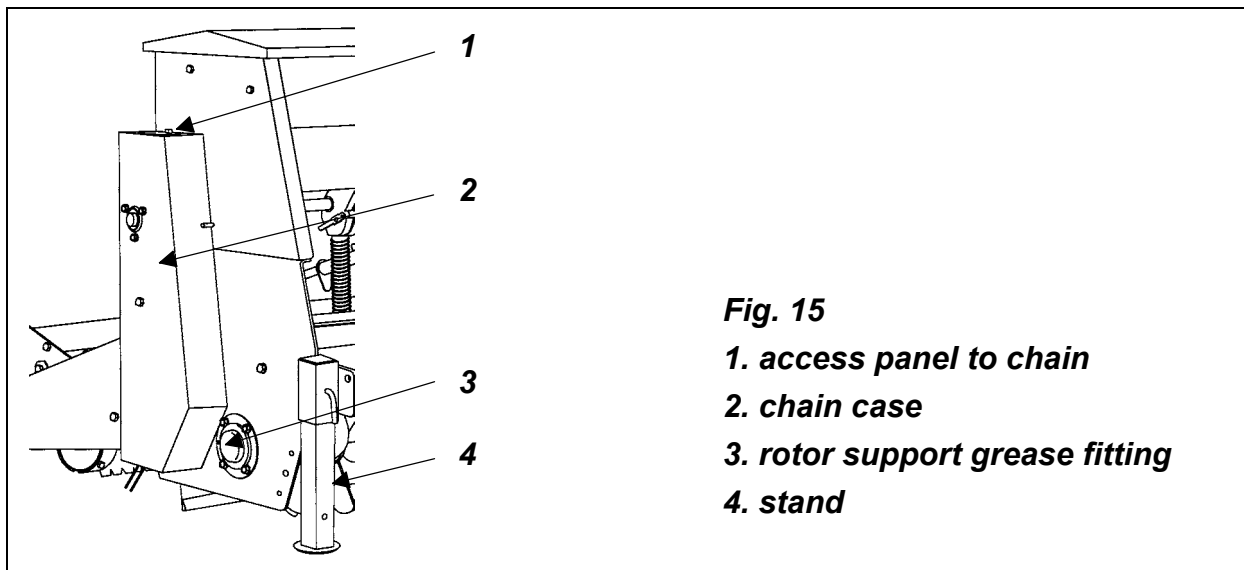

Fig. 15
1. **grease the rotor support (see fig. 15) and the roller support (see fig. 17), the driveline cross & bearings and telescopic tubes.** Apply two or three shots of grease to the driveline cross and bearings and the telescoping shafts. Apply the same amount to the rotor and roller bearings. See the driveline manufacturer operator's manual for further information on the driveline.
check the blades for excessive wear or damage. Be sure the rotor turns freely. Look at all the drive chains and make sure they are well lubricated (**see fig. 15 and 16**).